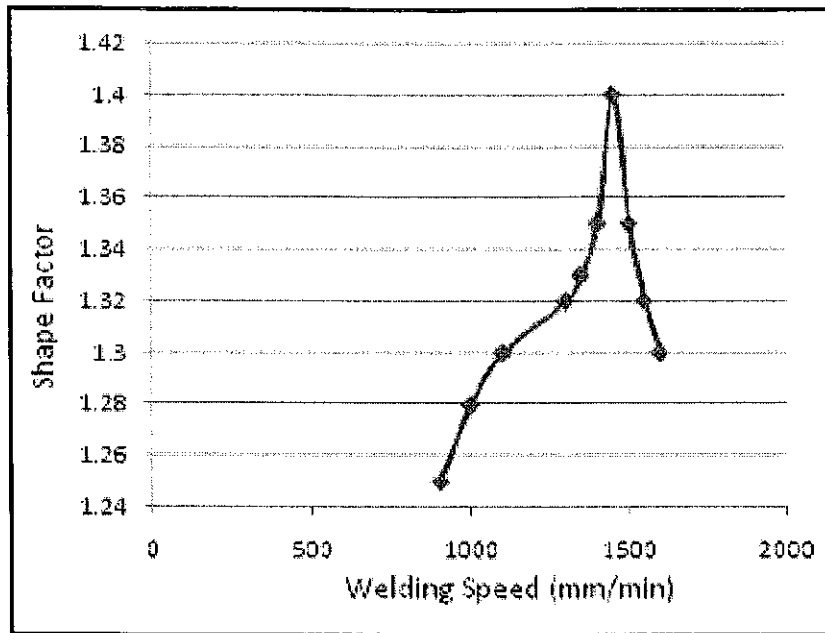

Figure 1: Effect of welding speed on shape factor
- (a) Analyze the result based on Figure 1. (9 marks)